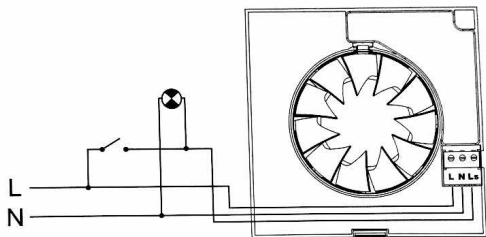

Fig.8
**Case 2:** Automatic operation as in case 1 with the facility to override the humidistat by means of the light switch (fig.8), when the humidity level in the room is lower than the